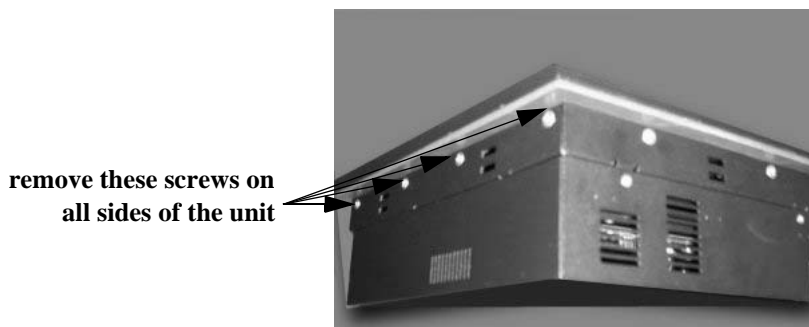

Figure 1 Removing the Touchscreen Screws
5. Remove the 12 screws that secure the touchscreen to the unit shown in *Figure 1*.